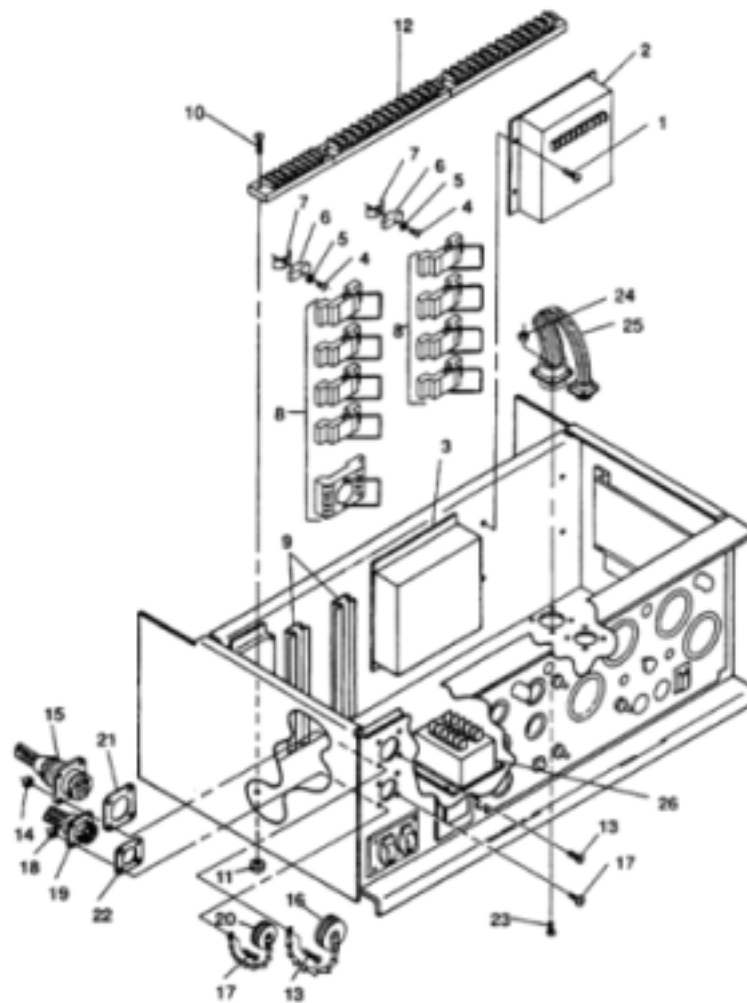

Figure 1. Control Box Components.
11. Tag and disconnect electrical leads to CONVENIENCE RECEPTACLE (20), GROUND FAULT CIRCUIT INTERRUPTER (23), and connector to malfunction indicator panel (27).
13. Remove screws (Figure 1, Items 13 and 17), nuts (14 and 18), caps (16 and 20), diagnostic connector (15), parallel connector (19), and gaskets (21 and 22) from control box panel.
14. Remove screws (23) and nuts (24) from harness connectors and remove harness assembly (25) from control box.
1. Position control box wiring harness assembly (Figure 1, Item 25) in control box.
2. Secure harness connectors to control box with screws (23) and nuts (24).
3. Install gaskets (21 and 22), diagnostic connector (15), parallel connector (19), and caps (16 and 20) in control box panel with screws (13 and 17) and nuts (14 and 18).
5. Connect electrical connector to malfunction indicator panel (WP 0043, Figure 1, Item 27) and electrical leads to CONVENIENCE RECEPTACLE (20) and GROUND FAULT CIRCUIT INTERRUPTER (23).
6. Connect electrical leads, as tagged during removal, to watt transducer (40), load measuring unit (69), reverse power relay (49), permissive paralleling relay (51), resistor-diode assembly (71), short circuit/overload relay (47), frequency transducer (38), overvoltage/undervoltage relay (45), DC Control Power Circuit Breaker (35), BATTERY CHARGER FUSE assembly (32), OVERSPEED RESET switch (10), FREQUENCY SELECT switch (14), REACTIVE CURRENT ADJUST rheostat (3), LOAD SHARING ADJUST rheostat (7), and shunt (43). Remove tags.
7. Connect electrical leads to AC Voltage Regulator (Figure 1, Item 2) and governor control unit (3). Remove tags.
8. Secure terminal boards (12) to control box with screws (10) and nuts (11).
9. Position sockets (8) on tracks (9) as tagged during removal.
10. Secure sockets (8) to tracks (9) with clips (7), insulators (6), washers (5), and screws (4). Remove tags.
WP 0043, Figure 1, Item 60